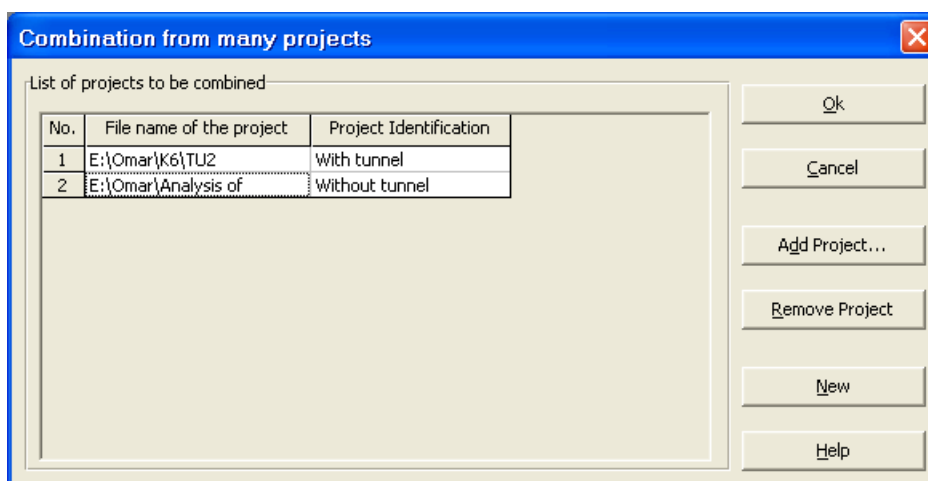

Figure 13-54 "Combination from many projects" list box
- Choose "Combination from many projects" command from "File" menu of *ELPLA-Section*. The following list box in Figure 13-54 appears. Select the project "TU1" in the list of projects to be combined